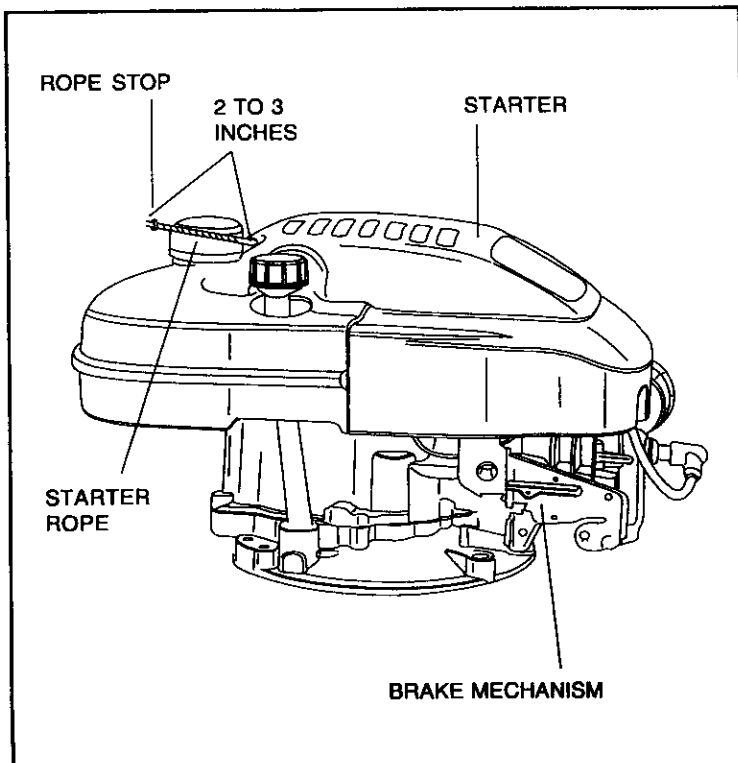

Figure 2
② **INSTALL ENGINE BRAKE CABLE AND STARTER ROPE: BRAKE CABLE (see Figure 2):**
4. a) **RECOIL STARTERS:** Grasp starter handle (figure 2) and pull rope out slowly until you feel drag. Let rope rewind slowly. Pull rope with rapid, full arm stroke. Return rope slowly to original position.